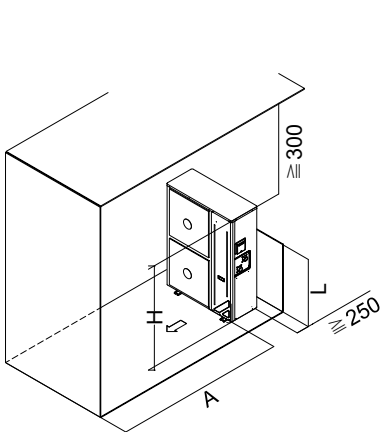

Figure 13
- Single unit installation (see Figure 13)